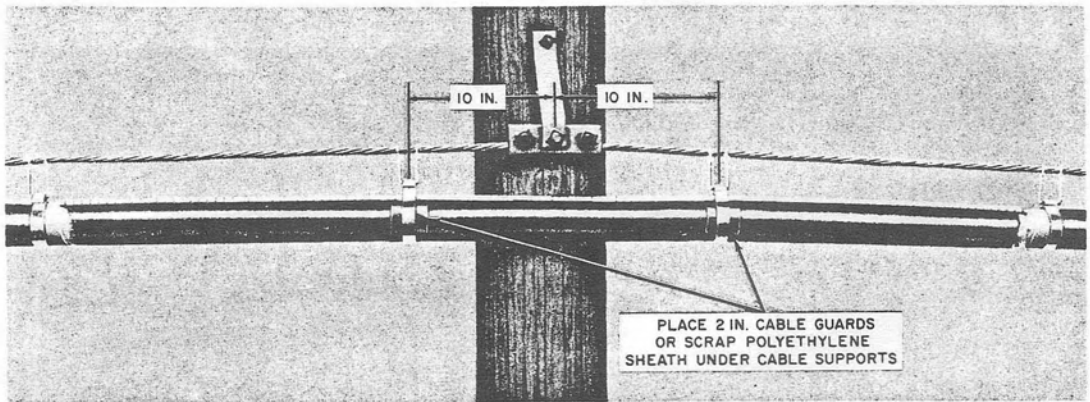

Fig. 4—Completed Aerial Slewing Application
4.17 Figure 4 illustrates a completed repair sleeving application and the cable resupported on the strand.